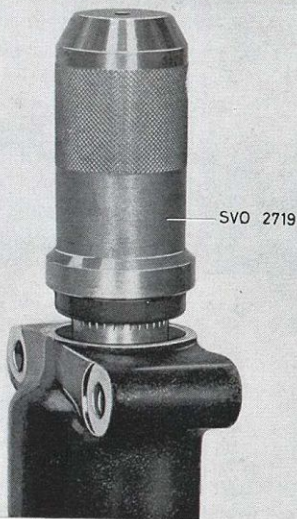

Fig. 6-61. Fitting sealing ring, pitman arm shaft
6. Coat the sealing ring with oil and fit it with tool 2719 as shown in Fig. 6-61.